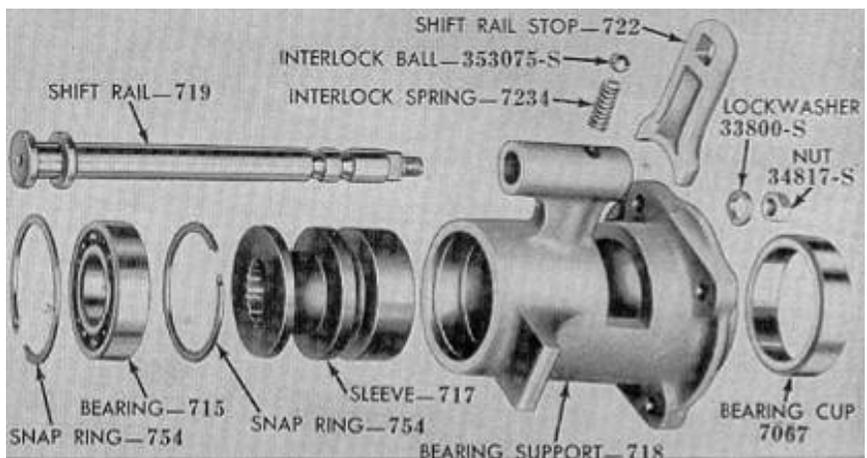

Fig. F075 - Power take-off shifter assembly which is mounted on rear wall of transmission housing. Models 2N-8N-9N. Refer also to Fig. F057.
The front end of the power take-off shaft is supported in a ball bearing (715-Fig. F075) mounted in support (718) located on the rear wall of the transmission housing. Rear end of shaft is supported in a similar type bearing mounted in a retainer on the rear face of the center housing. An adapter is available to increase shaft size to 1-3/8 inch to permit use of ASAE standard implement drive coupling. The PTO shaft revolves at 545 rpm when the crankshaft is revolving at 1500 rpm.
96. To remove the shifter and shaft front bearing unit from the tractor, detach the center housing from the rear of the transmission housing as outlined in paragraph 70A or remove the hydraulic lift cover assembly from the center housing. Remove the cap screws retaining the unit to the rear wall of the transmission housing Fig. F056. Procedure for overhaul is self-evident after examining the unit or the components as shown in Fig. F075.